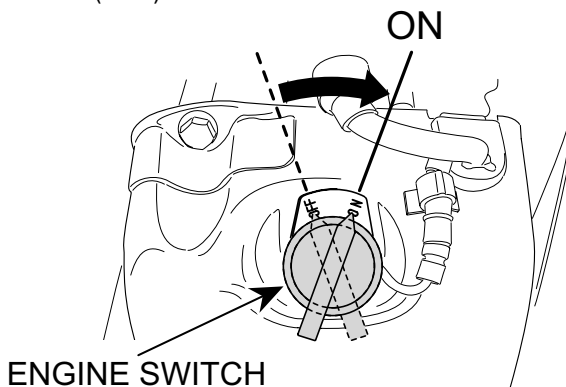

Figure 11. ON/OFF Switch (ON Position)
2. Set the engine ON/OFF switch (Figure 11) to the "ON" position (start).